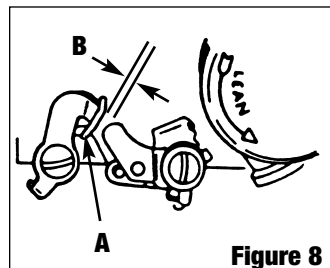

Figure 8
• **FERMETURE DE LA SOUPAPE D'OBTURATEUR SECONDAIRE (FIG. 8)**